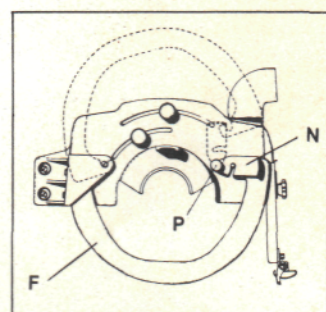

Fig. 7
1. Release the bevel latch (14) and bevel clamp (12) and tilt the motor and blade about 30° to the left.
2. Loosen the locking screw (P) (Fig. 7) and turn the retaining bracket (N) anti-clockwise until the right hook of the rear black guard (F) can be lifted free of the support lug.